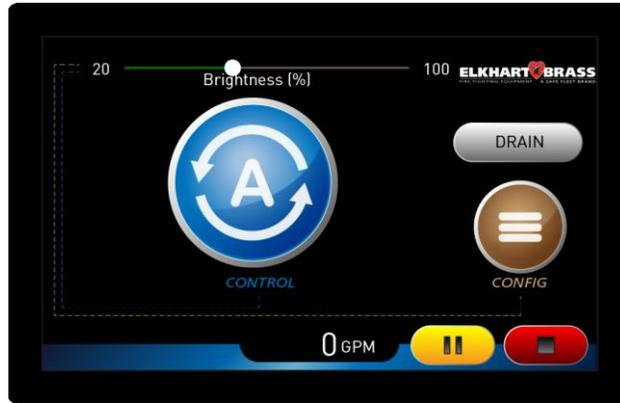
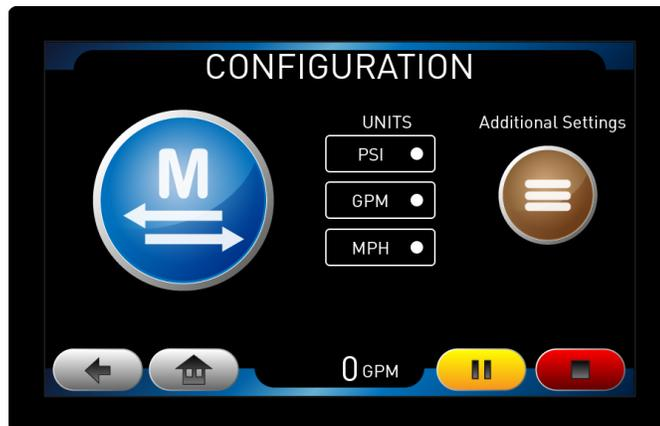
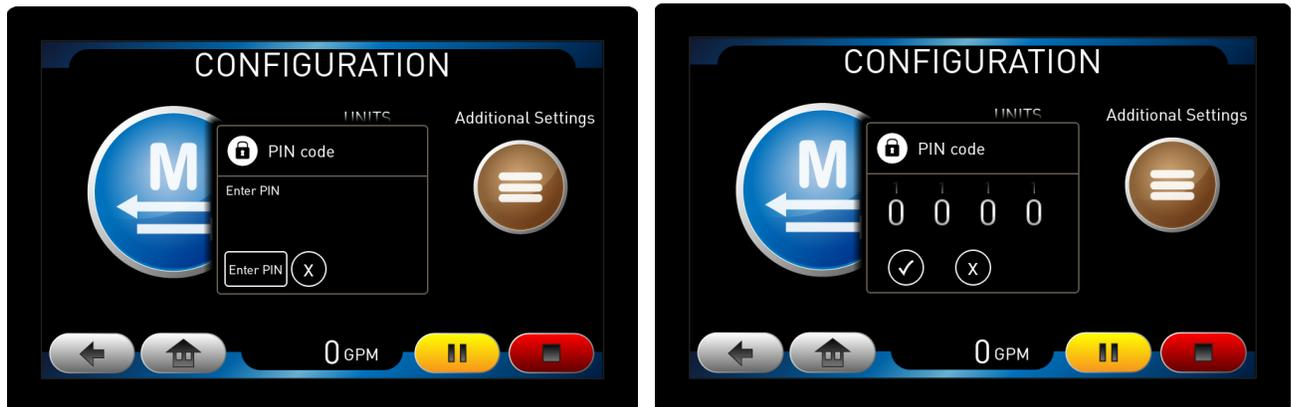

Figure 32: Home page
Figure 33: Main Configuration page
Figure 34: PIN Code dialog box
- Power up the system or push the  button on the touchscreen. You should see the Home page (Figure 32).
- Press the “CONFIG” menu button on the Home page (Figure 32) to get to the Main Configuration page (Figure 33).
- Press the “Additional Settings” menu button on the Main Configuration page (Figure 33). You should see the PIN Code dialog box appear, asking you to Enter PIN (Figure 34).
- Once all valves are configured, push the  button to return to the Home page (Figure 32).
- Turn on the system. You should see the Home page (Figure 32).
- Power up the system. You should see the Home page (Figure 32).
- b. The units for the speed values are the same as what is set on the Main Configuration page (Figure 33).
1. Power up the system or push the  button on the touchscreen. You should see the Home page (Figure 32).
2. Press the “CONFIG” menu button on the Home page (Figure 32) to get to the Main Configuration page (Figure 33).
3. Press the “Additional Settings” menu button on the Main Configuration page (Figure 33). You should see the PIN Code dialog box appear, asking you to Enter PIN (Figure 34).
11. Push the  button on the touchscreen to return to the Home page (Figure 32).